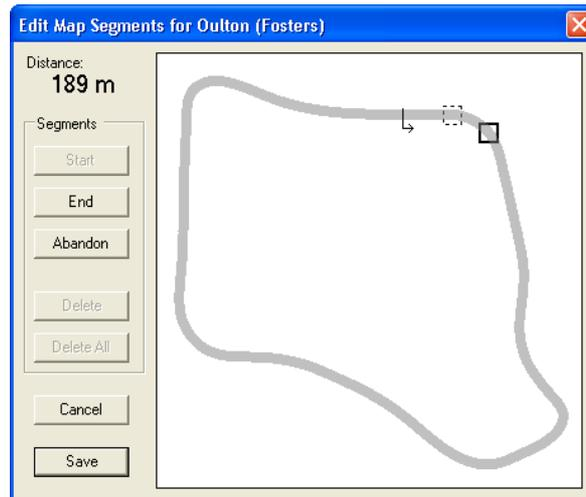

Figure 25 - Edit Map Segments Dialog (Defining a Segment)
3. Mark the start point of the segment by clicking on the map and then clicking **Start**. The start point of the segment is marked with a square drawn in a dashed line (see Figure 25). The **Start** button is disabled and the **End** and **Abandon** buttons are enabled.